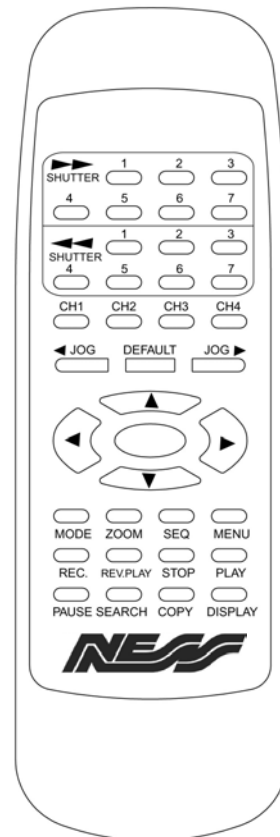

Figure 1
- The remote controller is an accessory to enhance the handy operations of digital video recorder (Figure 1). You can do all the settings and operations by the remote controller. The effective distance is up to 10 meters without any obstacles. The keypad functions are as same as the front panel of the digital video recorder .